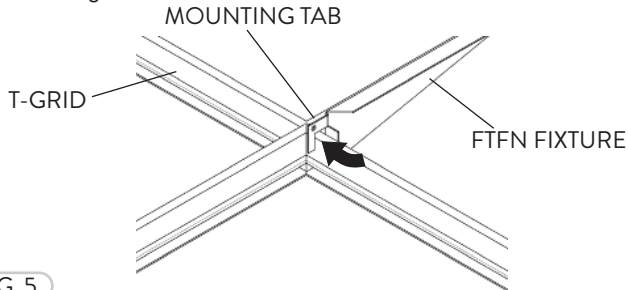

FIG. 5
- 1 The FTFN fixture has Mounting Tabs at all four corners. Carefully bend out (4) Mounting Tabs to 90° on all four corners to fit onto the T-Grid (Fig. 5).